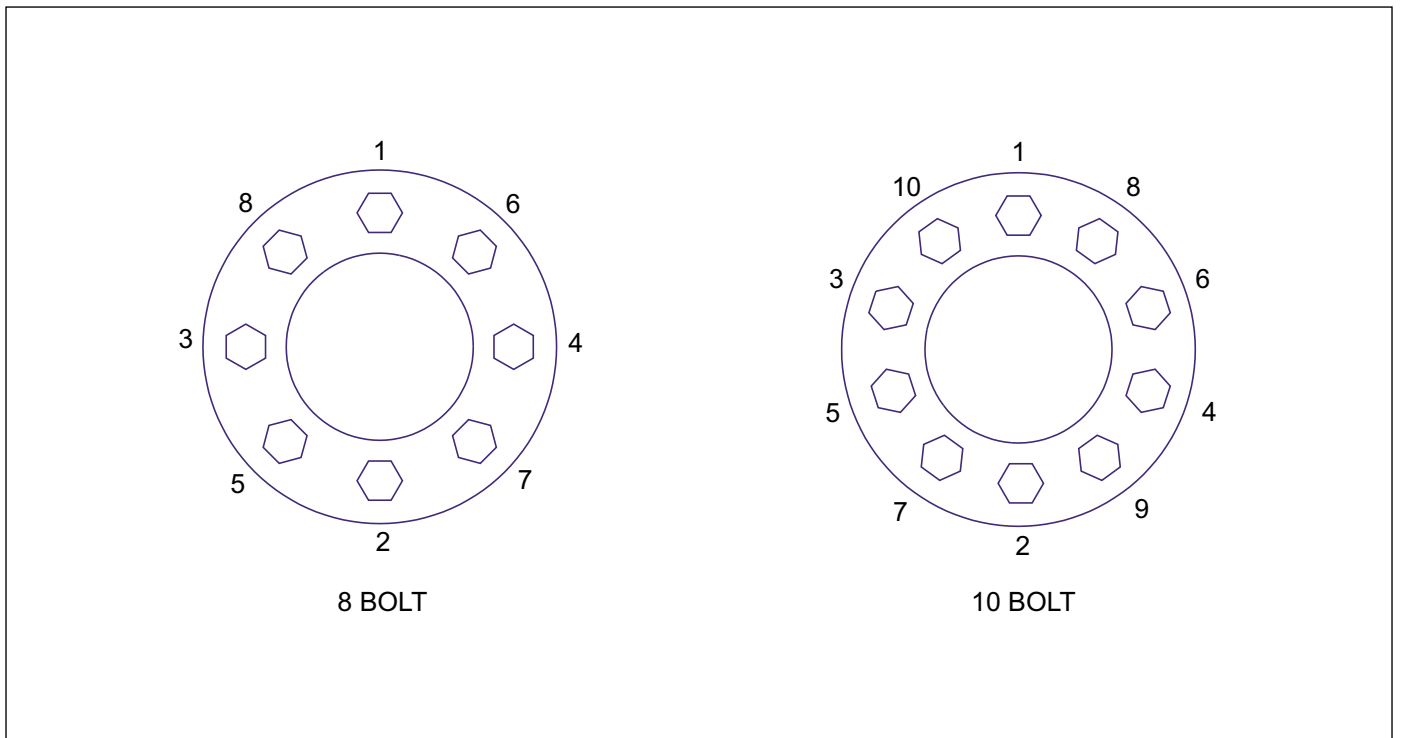

Figure 4-16: Stud Tightening Sequence
4. Install flange nut (pilot mount) and tighten to 50 ft-lbs using the sequence in (*Figure 4-16.*) Then tighten to full torque of 450 to 500 ft-lbs for ball seat and 500 to 550 ft-lbs. for pilot mount, using the same sequence.